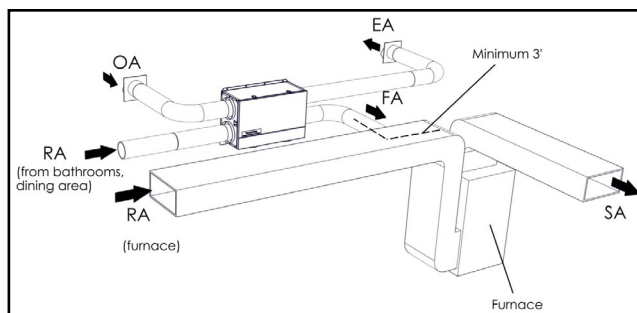

FIGURE 2.4.0 SEPARATE ROOM AIR PICK-UP—FRESH AIR TO FURNACE RETURN AIR TRUNKLINE
• FOR HOUSES WITHOUT DUCTED HEATING OR COOLING SYSTEMS—SEE FIGURES 2.4.0, 2.4.2, AND 2.4.3.
• FOR INSTALLATIONS THAT COLLECT STALE AIR FROM SPECIFIC ROOMS IN THE HOME—SEE FIGURES 2.4.0 AND 2.4.1.
A RenewAire ERV can be used as a central exhaust system in place of bathroom exhaust fans. Tie a grille in each bathroom directly back to the ERV—see Figure 2.4.0. A successful installation should provide at least 50 CFM of exhaust per moisture producing bathroom. When used for bathroom exhaust, the EV130 should be used for no more than two bathrooms, the EV200 and EV240 for up to four bathrooms and the EV300 for up to six bathrooms. Install a control in each bathroom ventilated by the ERV.